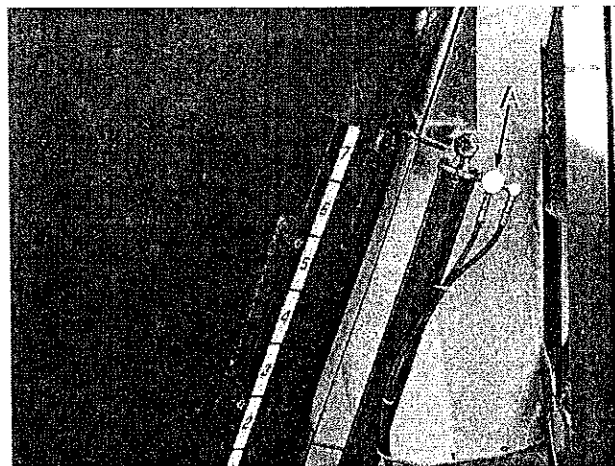

Figure 4. Relief Valve (A) for Door Hydraulics.
**Door Relief Valve** - All models are equipped with a 150 psi hydraulic relief valve in the hydraulic circuit for the door. See A in Figure 4. This valve is designed to prevent damage to the mixer door, floor, and unloading conveyor that could occur if foreign objects or material prevent the door from closing properly. This valve is pre-set at the factory and should not be adjusted.